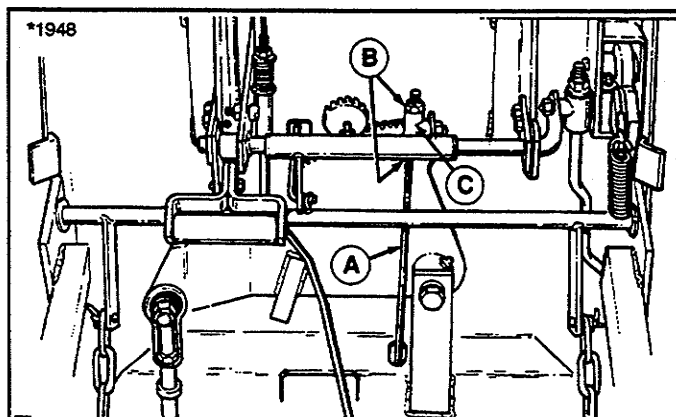

Figure 32. Hydro Control Rod
1. See figure 32. Loosen the nuts (B) on either side of guide (C). Leave 1/4" clearance on each side.
9. See figure 32. Hold guide (C) to keep it from rotating and tighten nuts (B)